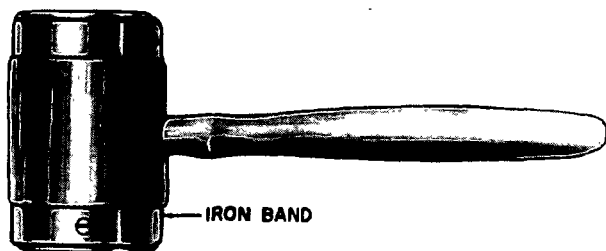

Figure 15. Wooden mallet.
e. Wooden Mallet. The wooden mallet, shown in figure 15, has a wooden head and two flat, circular faces reinforced by iron bands. The mallet is used for driving wooden stakes, smoothing out dents in sheet metal, or for turning thin metal edges without cutting the metal surface. The mallet is never used to drive spikes or any other metal objects with sharp heads.